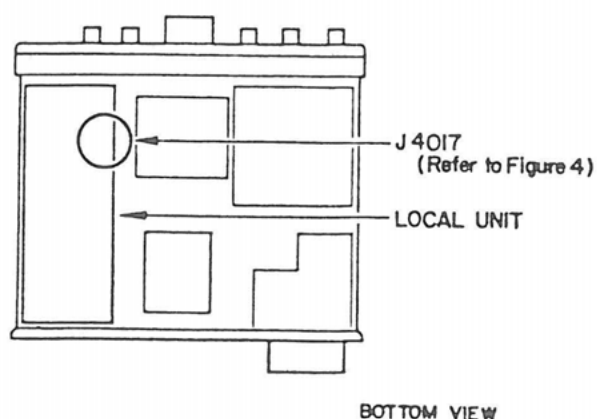

Figure 3
In the area left clear, fit an SL6440 according to the attached circuit. (see Fig 3
2. Referring to Figures 3 and 4, cut the white wire connected to J4017 on the LOCAL Unit, and wrap the end of the white wire with insulating tape to prevent it from shorting to other parts.